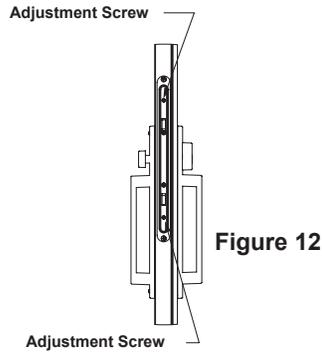

Figure 12
- The screws in the lock can be adjusted (Figure 12) to make the panels lock tighter or looser. Each hook adjusts individually.